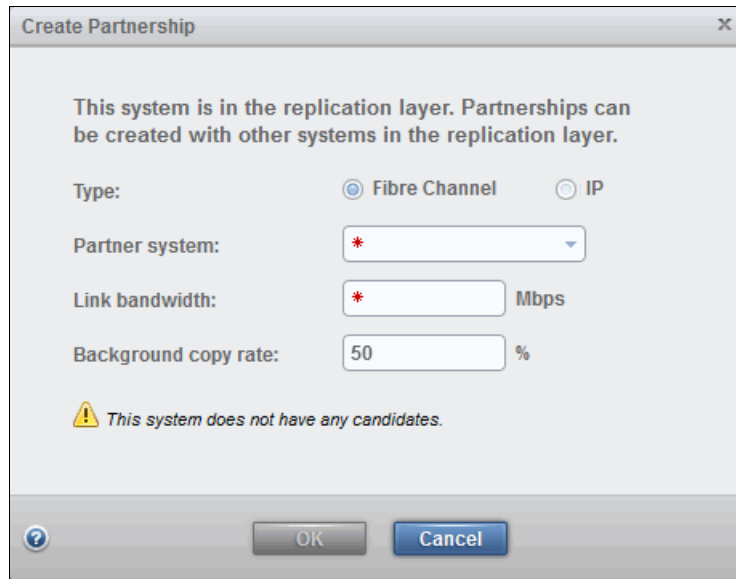

Figure 10-87 No candidates are available to create a partnership
3. If there is no partnership candidate, an error window opens, as shown in Figure 10-87.